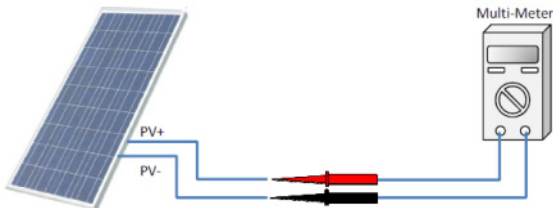

Figure 2.23 - Polarity Check
- (d) Check the polarity (Figure 2.23) before plugging the DC connectors with the cables of PV strings according to the following steps: